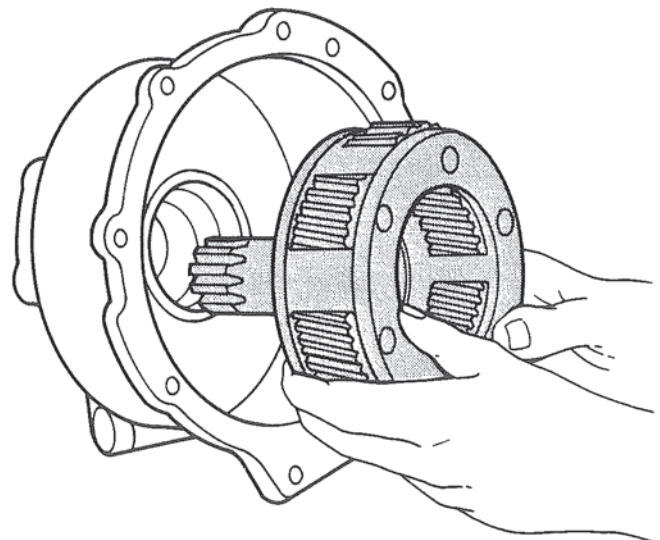

Figure 25. Installing Pinion Cage and Main Shaft.
3. Install the six (6) 7/16 - 14 x 1-1/4 hex head bolts and tighten to 50-55 ft. lbs. (6.90-7.59 kg/m).
4. Install the pinion cage and main shaft assembly into the bearing. Figure 25. If the main shaft does not assemble completely into rear bearing, do not use arbor press or force. The main shaft may be pulled fully into the bearing by use of the main shaft nut.